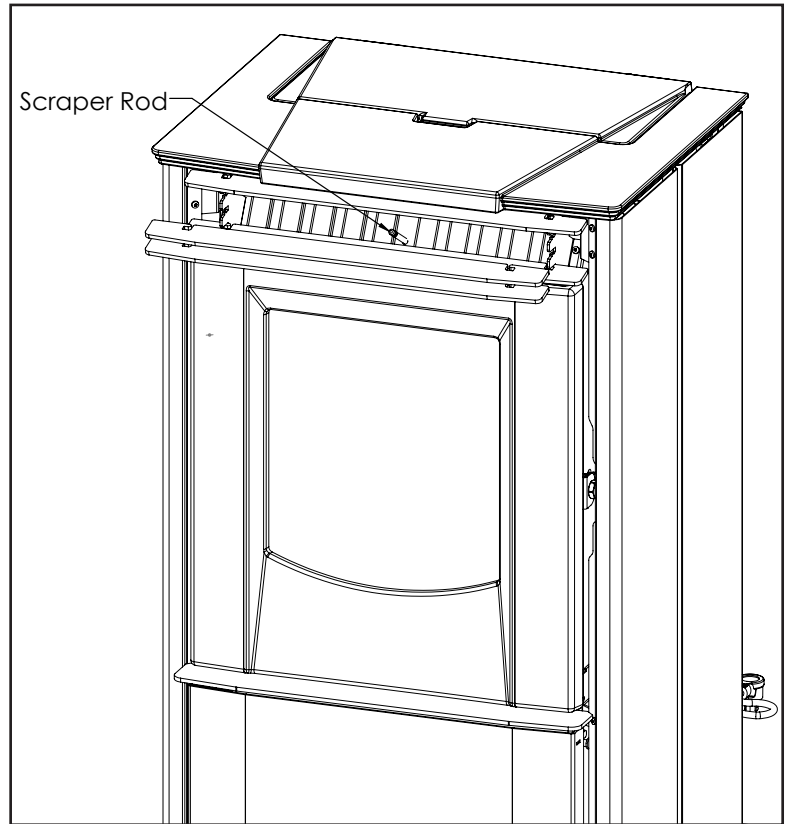

Figure 32: P4 Heat Exchanger Tubes
- Pull out the Scraper Rod shown in Figure 32 in order to remove any fly ash that may have collected on the heat exchanger tubes. This will allow for optimal heat transfer to convection air.